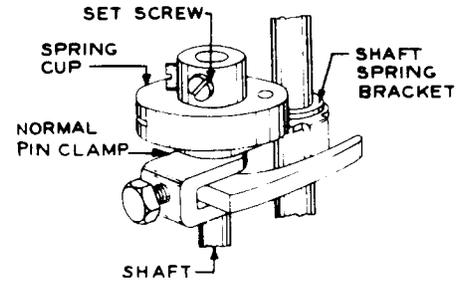
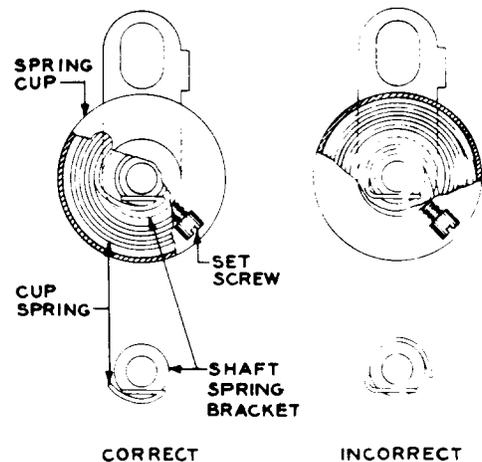

Fig. 34—Spiral-Type Shaft Spring
Fig. 35—Correct and Incorrect Methods of Attaching the Spiral-Type Cup Spring to the Shaft Spring Bracket
(3) To change the tension of the spiral-type shaft spring (Fig. 34), loosen the setscrew or screws in the spring cup assembly with the 3-inch C screwdriver and turn the spring cup in a clockwise direction to increase the tension and in a counter-clockwise direction to decrease the tension. Before tightening the setscrews, see that there is a perceptible clearance between the shaft spring bracket and the normal pin clamp when the shaft spring bracket is held against the spring cup. On switches equipped with shafts that are spotted to receive the spring cup setscrews, take care that the setscrews engage these spots so that the screws will not interfere with the operation of the normal post springs when provided. If, for any reason, the shaft spring has been removed from the shaft spring bracket, remount it as shown in Fig. 35.